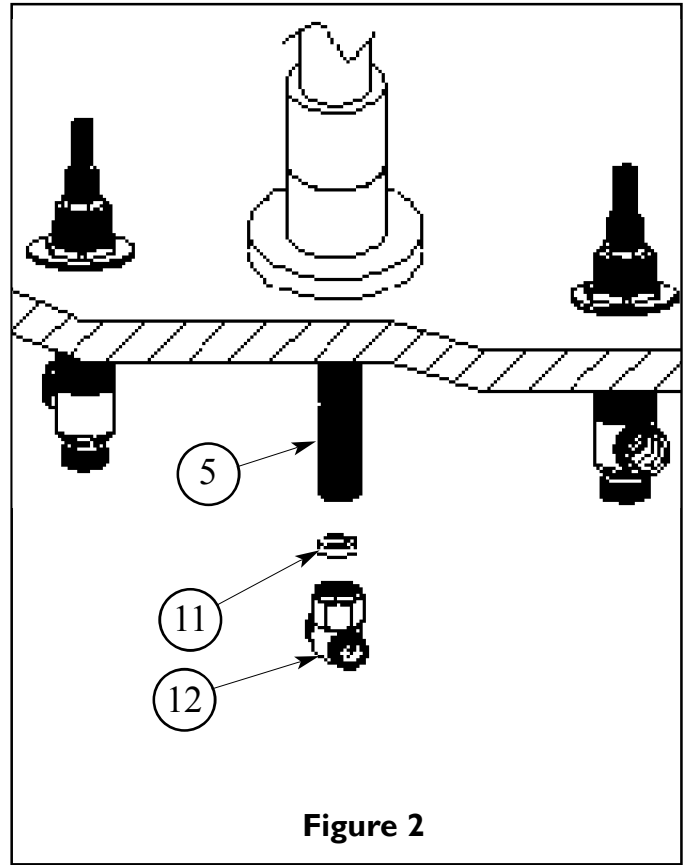

Figure 2
3. Insert rubber WASHER (11) into TEE (12) and attach to spout SHANK (5). See Figure 2.